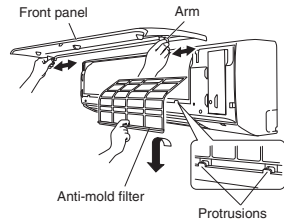

Fig. 3-82
If the front panel is difficult to remove, grasp both ends of it and lift it up slightly. Move it to the left and disengage the left arm, then move it to the right and disengage the right arm. (Fig. 3-82)
- (2) Lift the anti-mold filter up slightly to disengage it from the protrusions on the unit, and then pull downward to remove the filter from the unit. (Fig. 3-82)